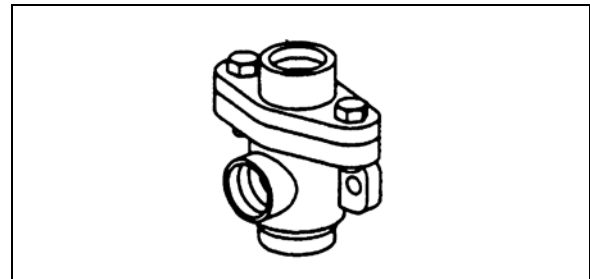

FIGURE 20: DC-4
At each pad replacement, make sure the caliper operates smoothly over its full range of movement. If the caliper shows the following signs, replacement of the guide sleeve (6c, fig 20), guide pin, screw (39) and cap is required.